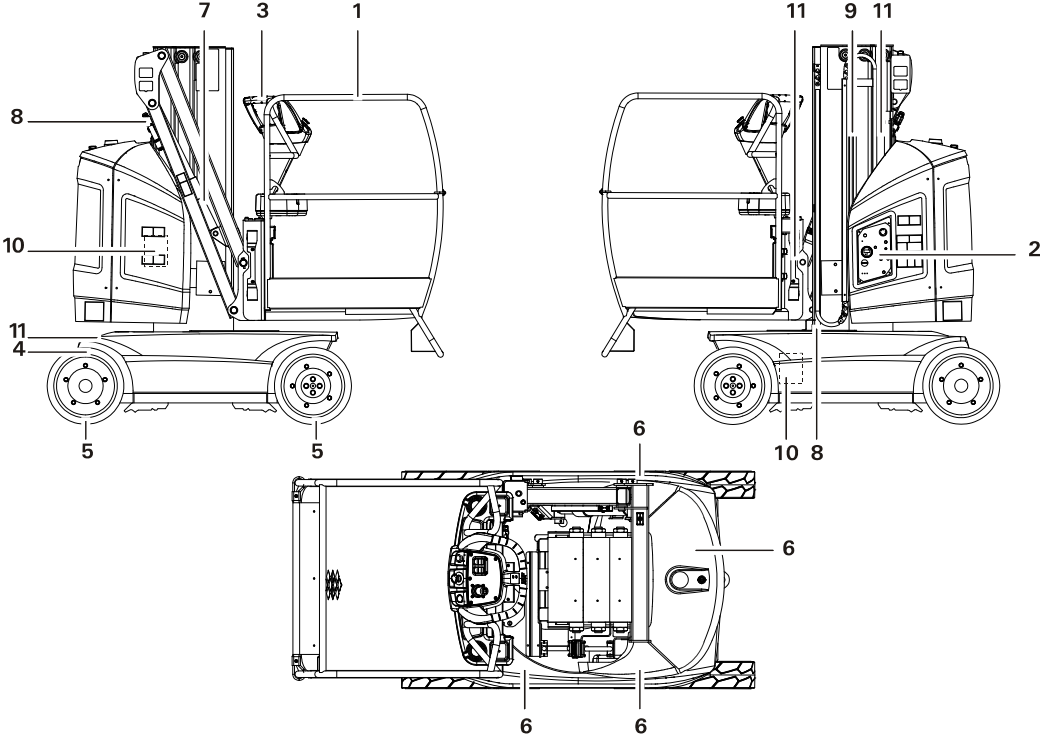
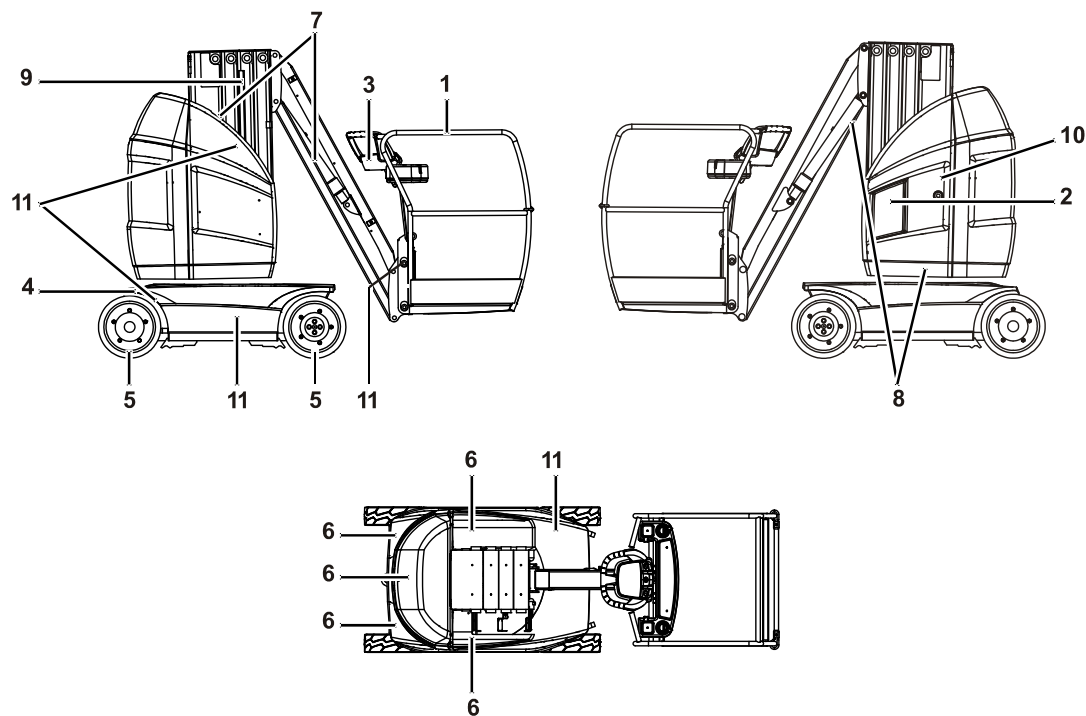

Figure 2-1. Daily Walk-Around Inspection - 8E
Figure 2-2. Daily Walk-Around Inspection - 10E
5. **“Walk-Around” Inspection** – Refer to Figure 2-1. or Figure 2-2. depending on model.
Begin the “Walk-Around Inspection” at Item 1, see Figure 2-1. or Figure 2-2. depending on model. Continue checking each item in sequence for the conditions listed in the following checklist.